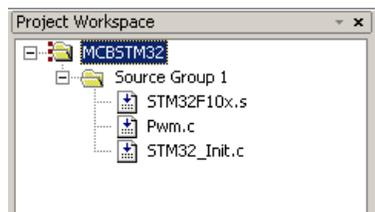

Figure 11 New Project Workspace for Target hardware MCBSTM32
14. Click once (carefully) on the name “Target 1” (or twice if not already highlighted) in the Project Workspace and rename Target 1 to something else. I chose MCBSTM32 as shown below in Figure 11. Click once on a blank part of the Project Workspace to accept this. Note the Target selector also changes. You can create many target hardware configurations including a simulator and easily select them for debugging purposes.